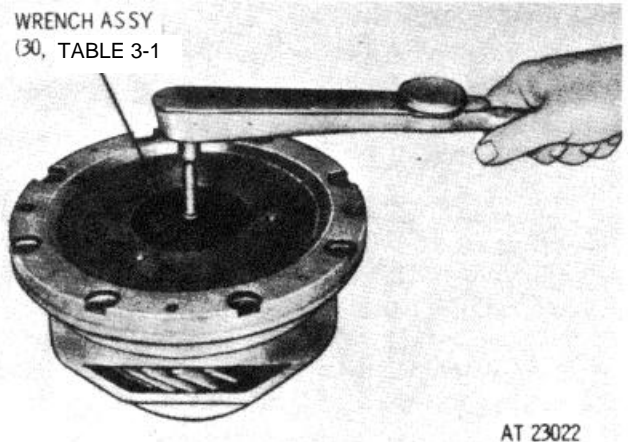

Figure 8-3. Checking preload torque of bevel drive gear bearings.
b. Using wrench assembly (30, table 3-1) (fig. 8-3) check the torque required to slowly rotate the bevel drive gear within the carrier. At zero end play, torque should not exceed 2 pound inches. If greater than this figure, add shims to increase the end play - but do not let the end play exceed 0.0015 inch.